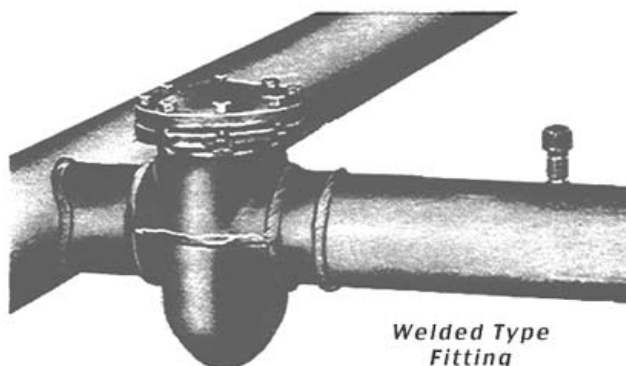

FIGURE 52
17. Bolt cap solidly to fitting flange. **Figure 52**.